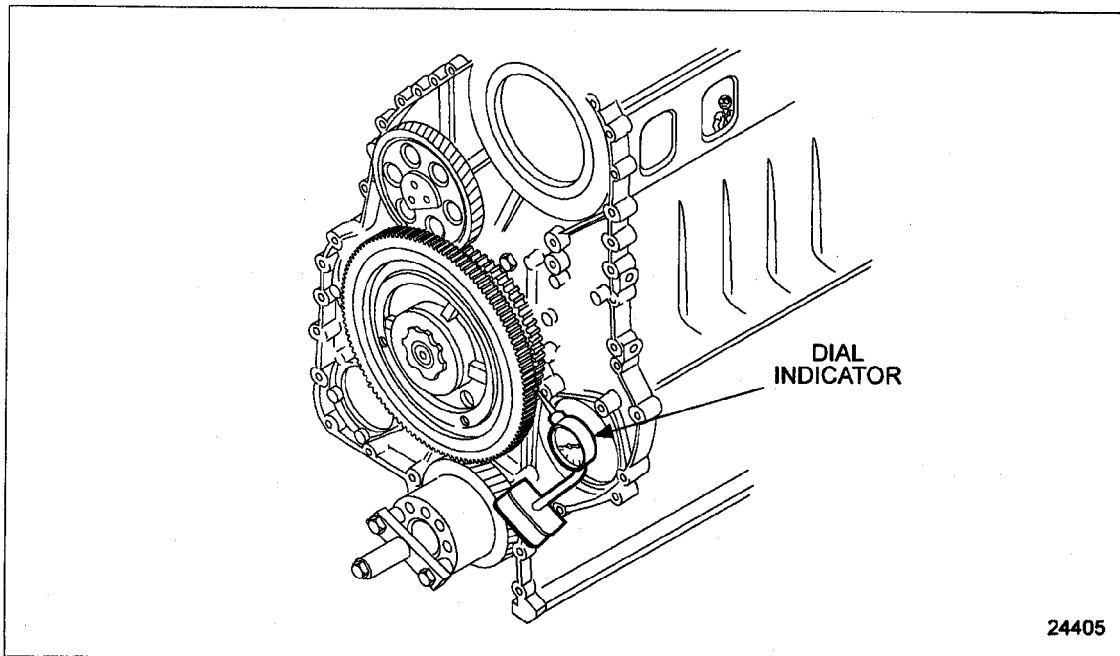

Figure 1-308 Crankshaft Timing Gear-to-Bull Gear Lash Measurement
- [a] Install a dial indicator and magnetic base. See Figure 1-308.